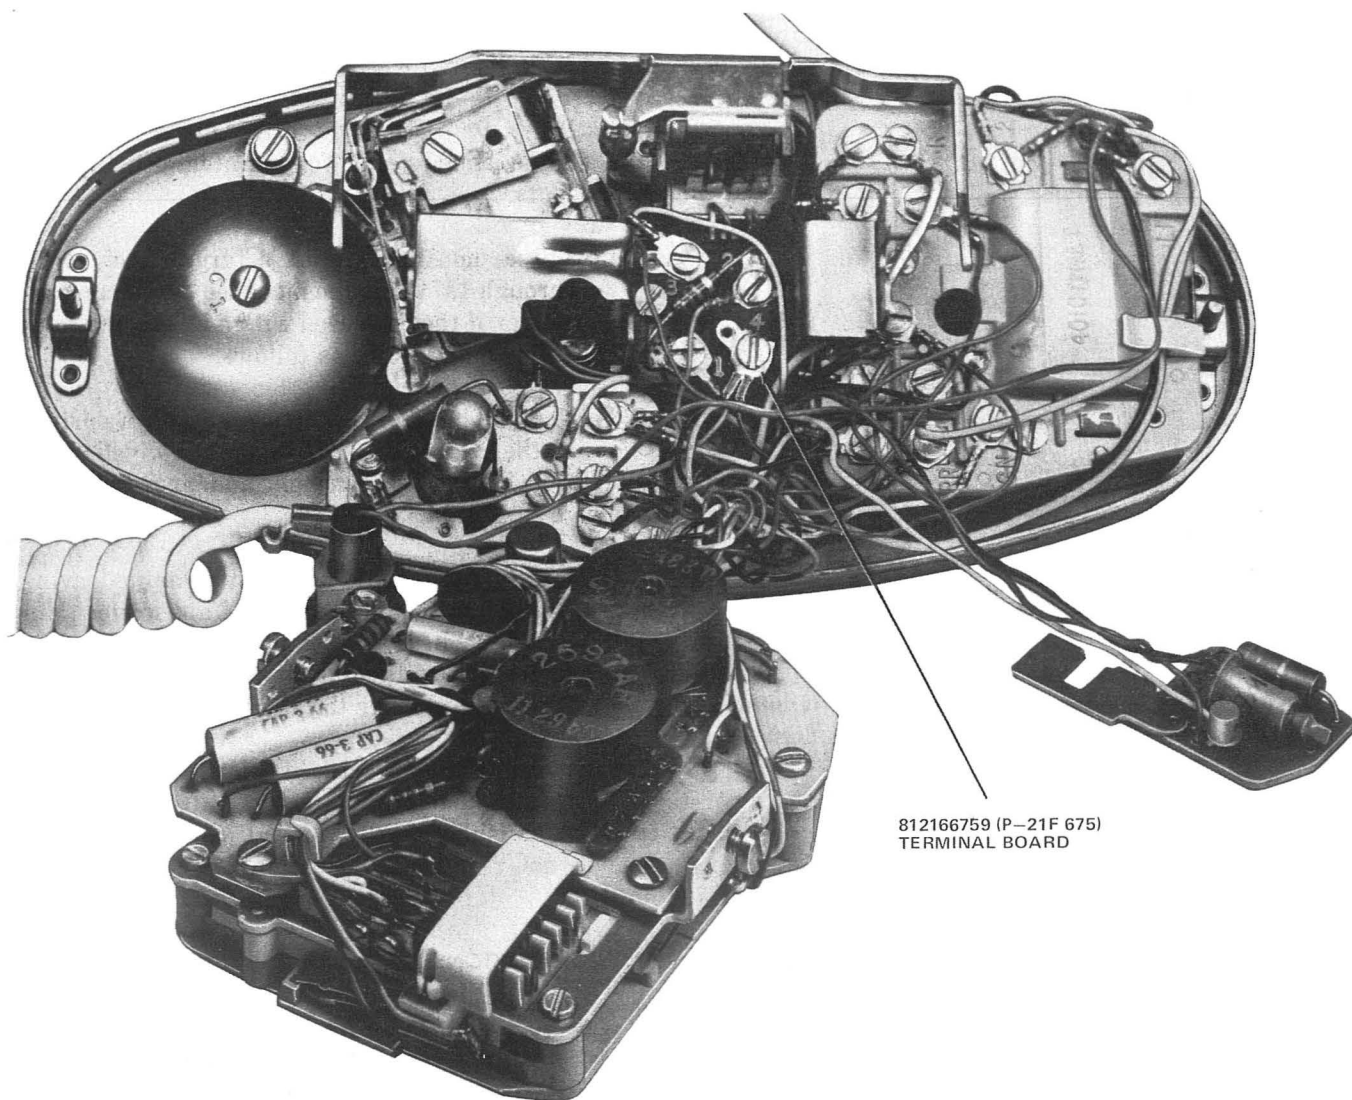

Fig. 9—812166759 (P-21F675) Terminal Board Installed in 2702D (MD) Telephone Set
- (3) Insert tabs of 812166759 (P-21F675) (Fig. 9) terminal board into notches in right-hand dial mounting bracket and secure to retainer using 814313920 (P-43A392) screw.
- (4) Connect polarity guard in accordance with